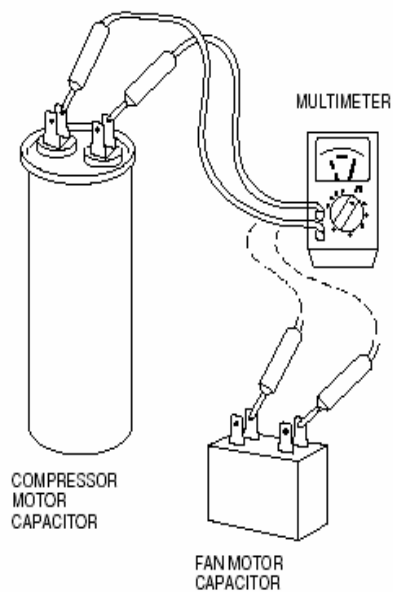

Fig. 7
- Remove the lead wires from the capacitor terminals, and then place a probe on the capacitor terminals as shown in Fig. 7. Observe the deflection of the pointer, setting the resistance measuring range of the multimeter to the maximum value. The capacitor is "good" if the pointer bounces to a great extent and then gradually returns to its original position. The range of deflection and deflection time differ according to capacity of the capacitor.